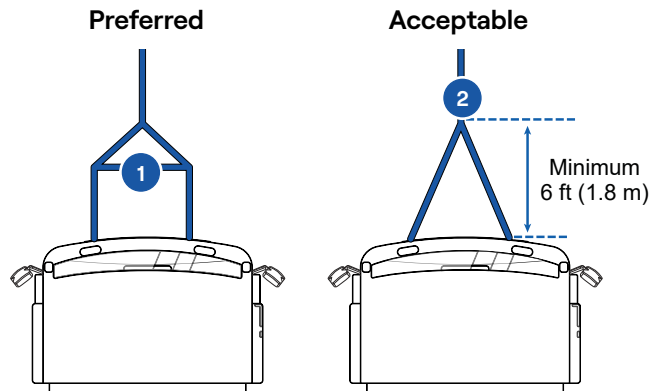

Figure 15 - Recovery options
- Use double chains or ropes to distribute the load evenly between both anchoring points (**Figure 15**).
- Use a spreader bar to distribute the load between the two tow hooks (**Figure 15 no. 1**), or
- If there is no spreader bar, attach the main drag chain or cable at least 6 feet from the vehicle (**Figure 15 no. 2**).